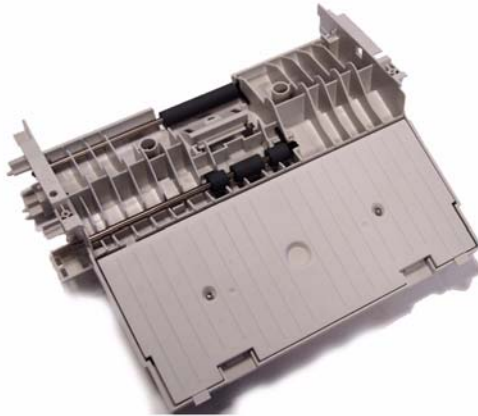

Figure 2
6. Turn each roller bearing of the registration roller, Figure 2.